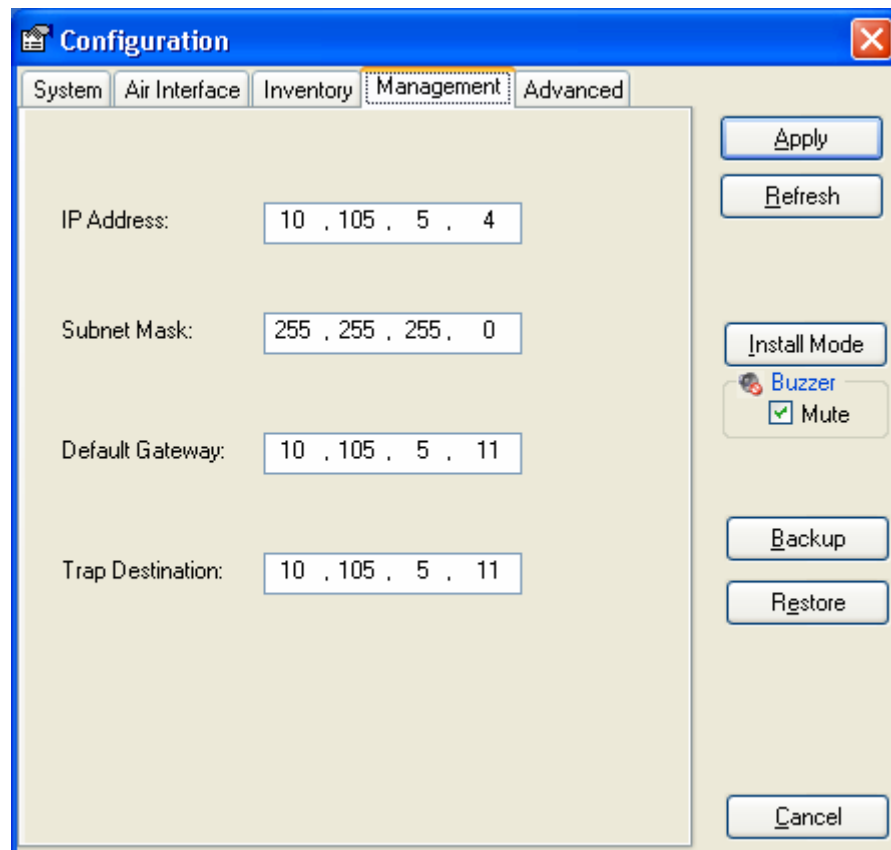

Figure 3-16. Configuration, Management
3. Click the Management Tab (see Figure 3-16).